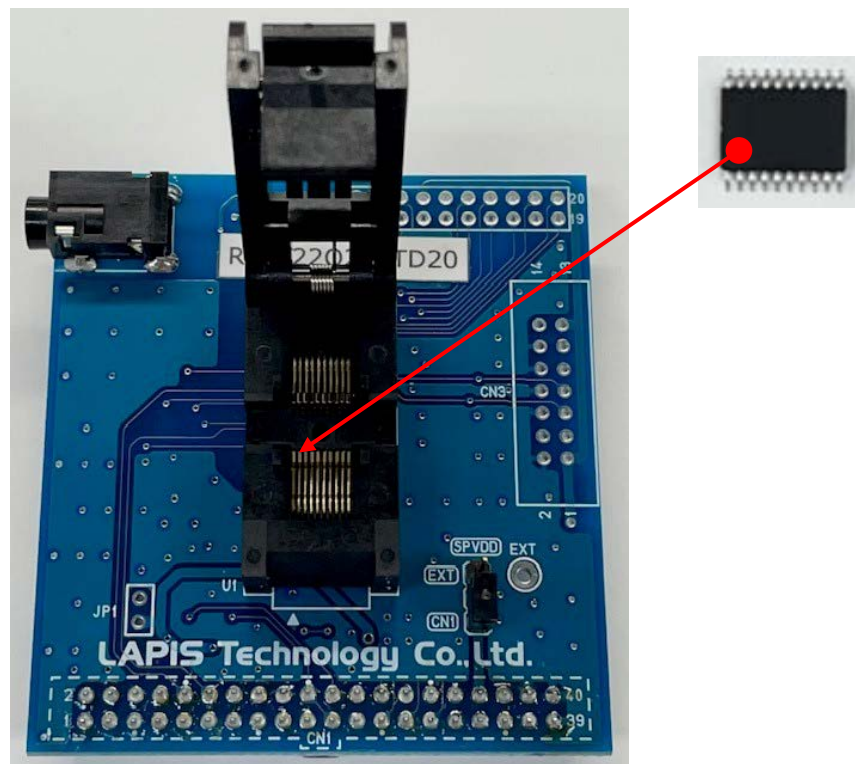

Figure 1 Outline Diagram
- Turn off the power when loading Speech Synthesis LSIs into the RB-S22Q254TD20. Pin 1 is the position of the board silk ▲ at the bottom left with respect to the socket opening. The Figure 1 shows the setting directions of Speech Synthesis LSIs.